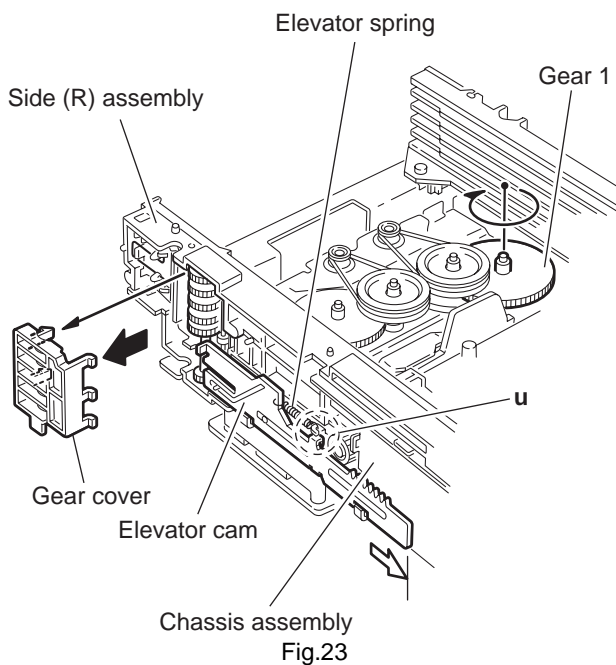

Fig.23
- (2) From the right side of the DVD changer mechanism assembly, remove the elevator spring attached to the hook **u** of the chassis assembly. (See Figs.23 and 24.)